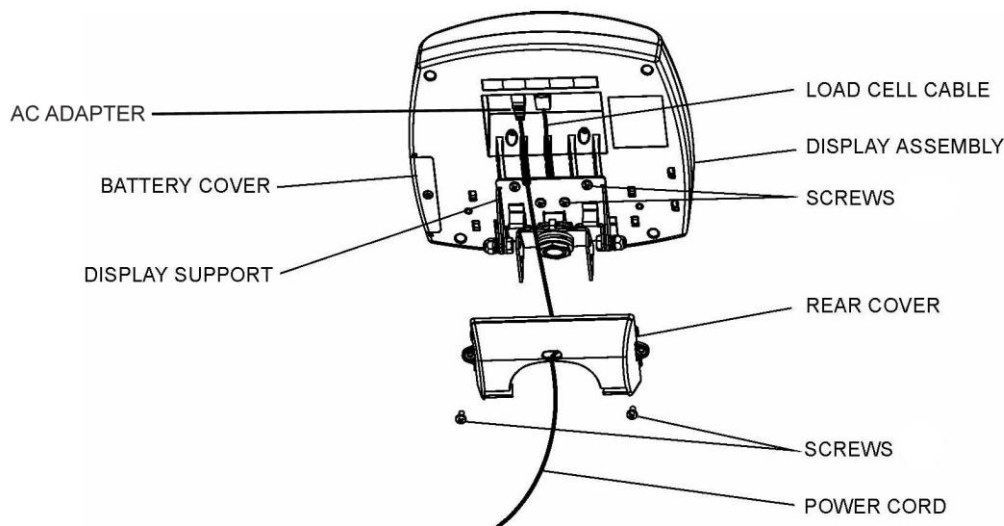

Figure 4
10. Position the Display Assembly close to the Display Support. Connect the load cell cable connector to the load cell port on the rear of the Display Assembly and insert and secure the cable into the center channel in the display. See Figure 4, for an illustration. **Note: Do not attach the power cord at this point—wait until step 13.**